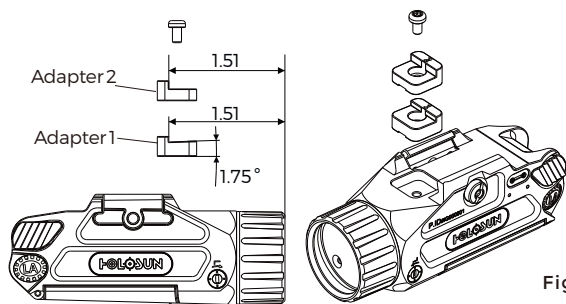

Fig 5
The P.ID PLUS/DUAL comes with 2 adapters. Marked as 1 and 2 respectively. See Fig 5. Both adapters are meant for any firearms with MIL-STD 1913 or similar rail. To change out the rail interface adapter, the P.ID PLUS/DUAL must be removed from the accessory rail. Select the adapter which matches the angle of your accessory rail.
3) Place the fixed side of the rail clamp against the firearm rail, use the included tool to turn the clamp screw head clockwise completely until the P.ID PLUS/DUAL is secured onto the rail and cannot be moved forward or back. See Fig 5